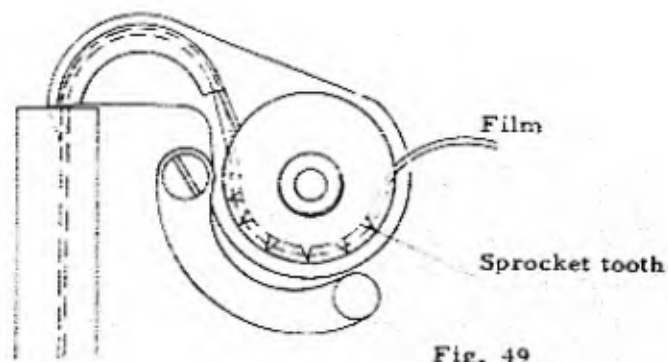

Fig. 49
- 4) Make the adjustment by changing the mounting position of the sprocket so that the film perforation from the film guide engages with the teeth of the Sprocket. See Fig. 49.